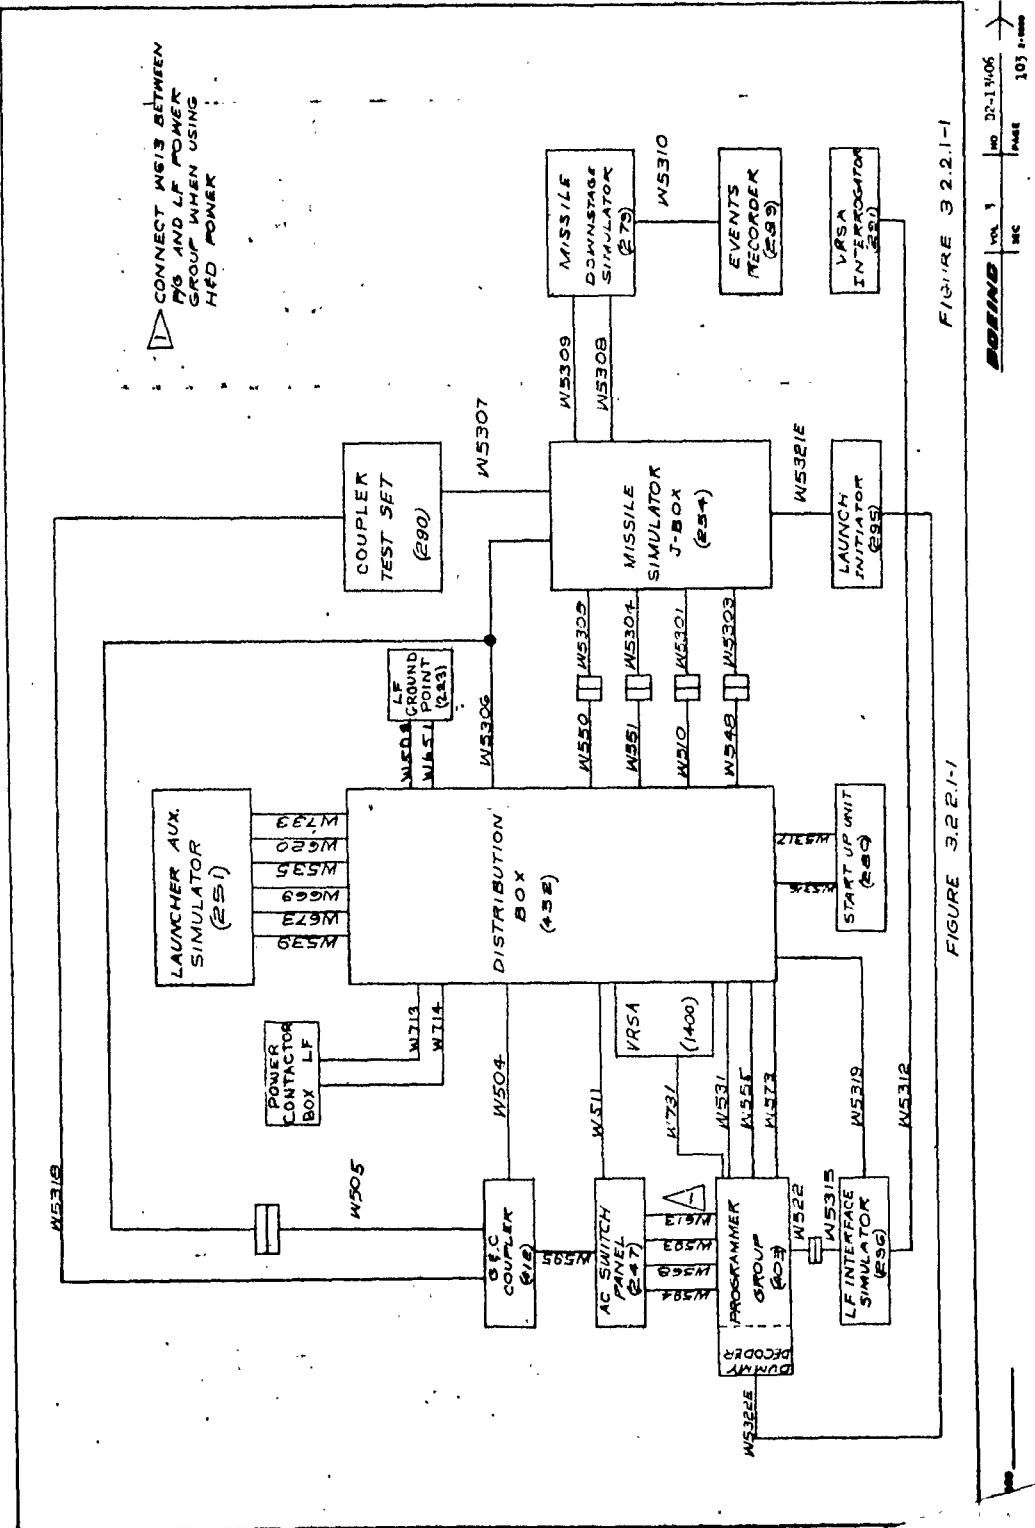

FIGURE 3.2.2.1-1
Refer to Figure 3.2.2.1-1.
3.2 Connect the equipment per Figure 3.2.2.2-1 using power system per Figure 3.2.1.1-2.